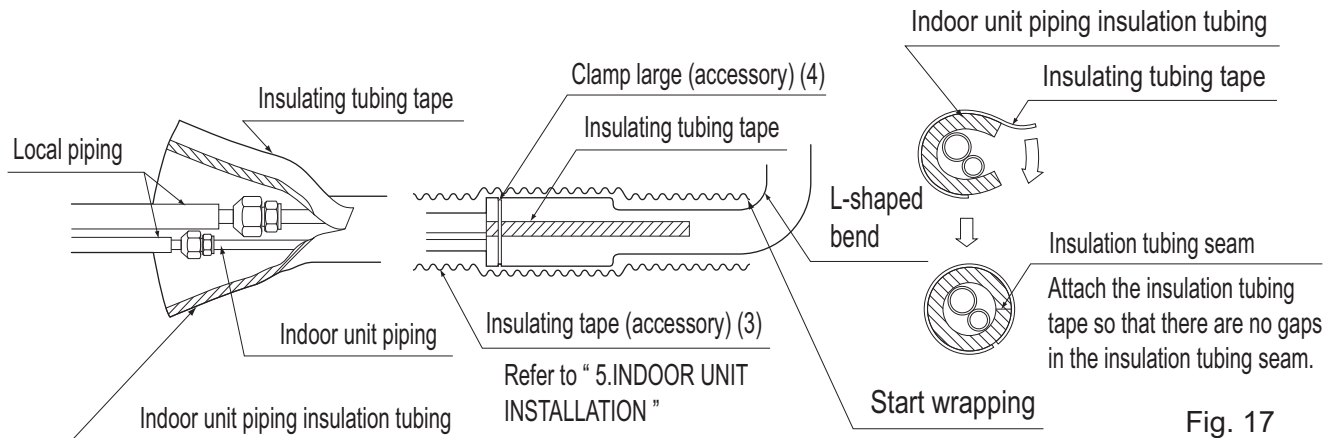

Fig. 17
- After leakage check of piping connection is finished, carry out thermal insulation with the supplementary piping insulation tubing and insulating tape (3). The insulating tape (3) should be wrapped from the L-shaped bend all the way to the end inside the unit. **(Refer to Fig. 17)**